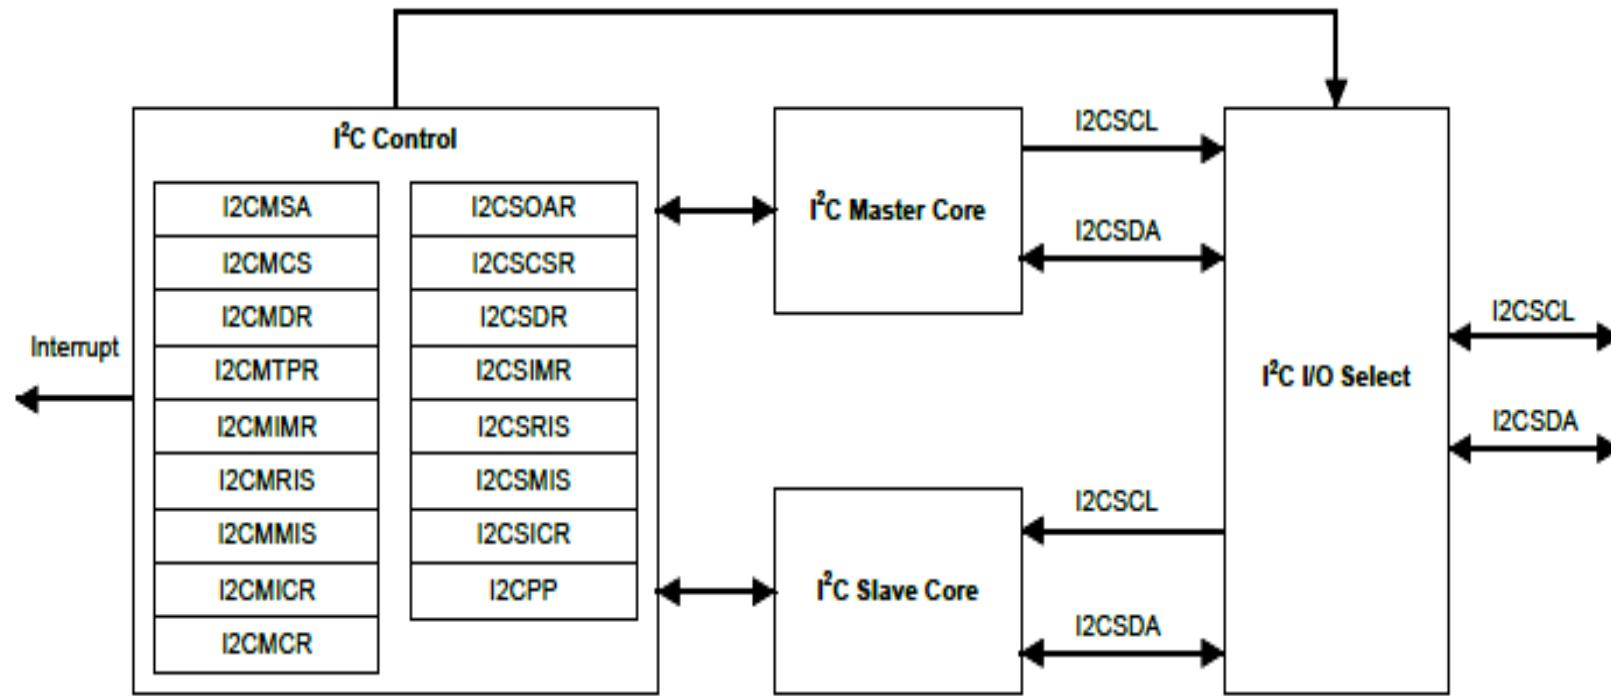

Figure 8.44 The functional block diagram of each I2C module.
- A functional block diagram of each **I2C module** is shown in Figure 8.44.
- It can be found from Figure 8.44 that each I2C module contains **two cores**; the **I2C Master Core** and the **I2C Slave Core**. Each core controls and coordinates the data transmit and receive operations via related registers.